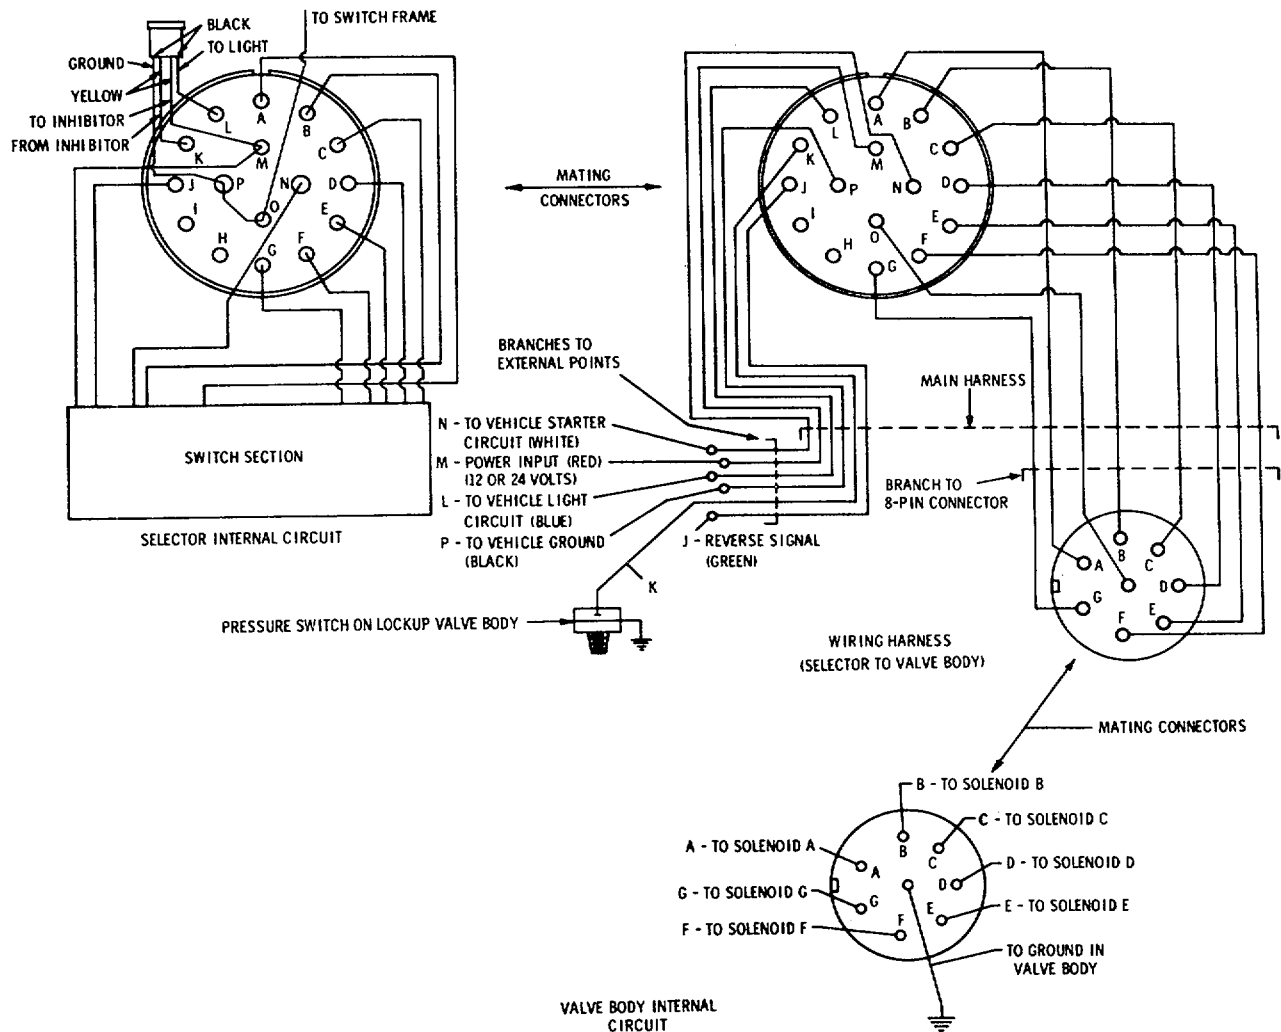

Figure 15-17. Manual-Electric Control System Wiring Diagram
CHECKING, ADJUSTING MANUAL - ELECTRIC CONTROL SYSTEM (Figure 15-17)
3. Check the shift tower (page 15-30). The inhibitor should engage when the lead to the pressure switch (K, Figure 15-17) is grounded (while vehicle power to the tower is on).